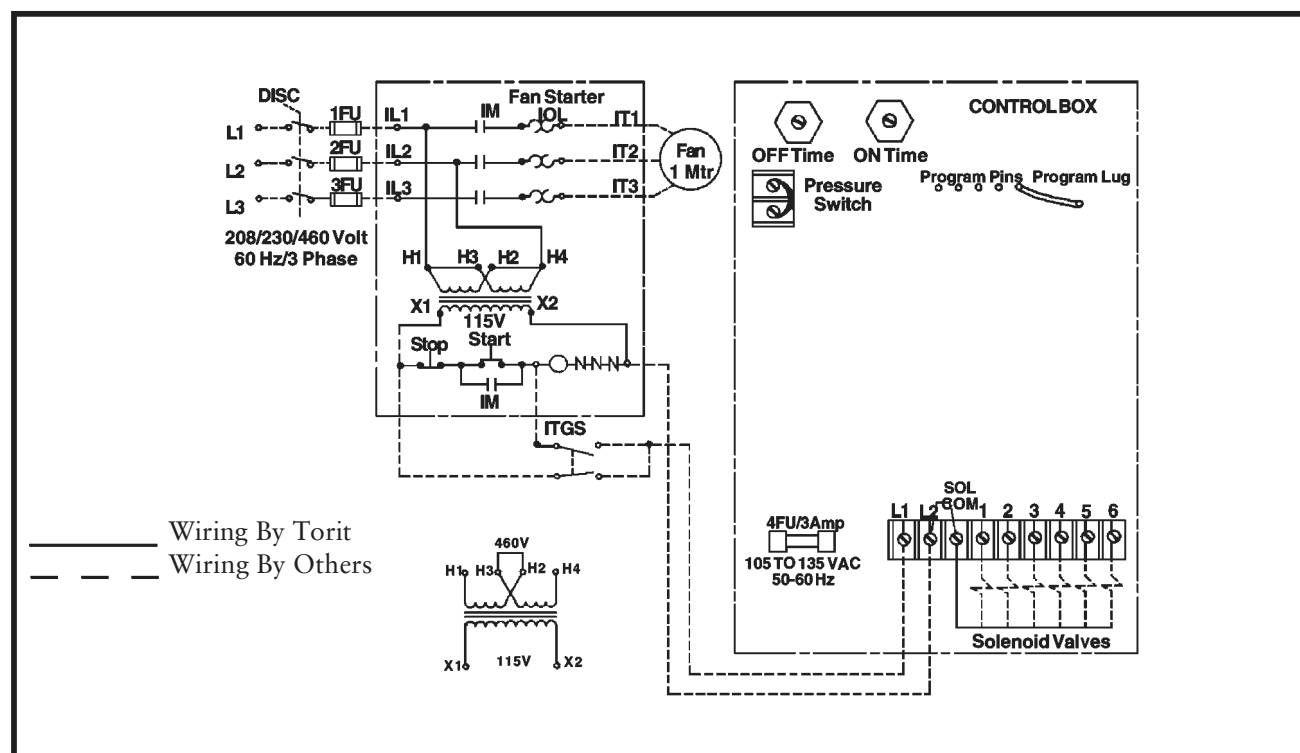

Figure 16
2.7 Electrical Installation (See Figure 16)
Using wiring diagram supplied with control timer, make proper connections to blower motor starter, solid-state control timer, and solenoid valves. All electrical apparatus should be properly sized for the required voltage. See Figure 16, Solid-State Timer Wiring Diagram and Figure 1, Typical Installation.
2.7.2 Solid-State Control Timer Specifications (See Figure 16)
Input power to the solid-state control timer is applied to the L1 and L2 terminals on the timer control circuit board, which is in parallel with the low voltage (115/60/1) coil of the blower fan magnetic starter (see Figure 16, Solid-State Control Timer Wiring Diagram). Upon fan start-up, power is supplied to the control timer and the preset OFF time is initiated. At the end of the OFF time, the control timer will energize a corresponding solenoid valve to provide the ON time cleaning pulse for one row of filter tubes and then steps to the next row.
This cycle is continuous unless an auxiliary control such as the Photohelic pressure switch or a 1TGS toggle switch is used to control the timer (see Figure 16, Solid-State Control Timer Wiring Diagram). When all of the available outputs are not required, program the control timer for fewer outputs. Reset the program pin selection wire on the solid-state control timer to the correct number of solenoid valves being used (see Figure 16, Solid-State Control Timer Wiring Diagram). The 1TGS is an optional switch, supplied by customer, which provides a manual method of starting the timer cleaning sequence, independent of blower operation. Consult your local Torit representative before using this method.